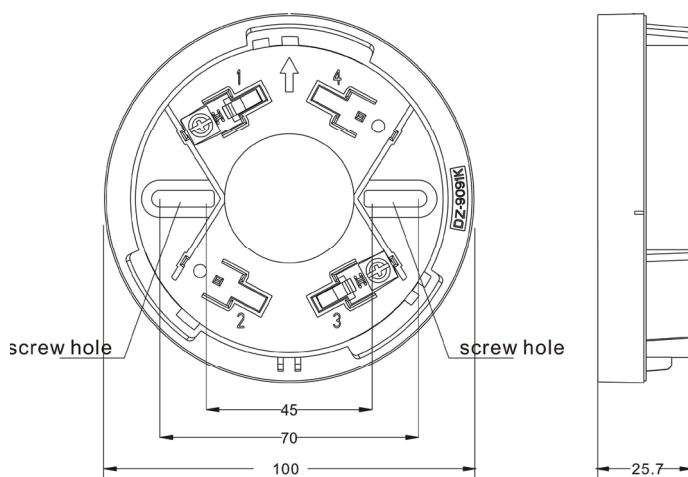

Fig .3 Base and wiring diagram
2. Use two M4 screws to fix the IQ331SB base via the two elliptic screw holes (see Fig .3), then connect the power cables with the terminal 1&3 (1 connected with positive, and 3 with negative 1.5mm 2 or above fire cable for the power inputs is recommended.), finally twist the main body onto the base.